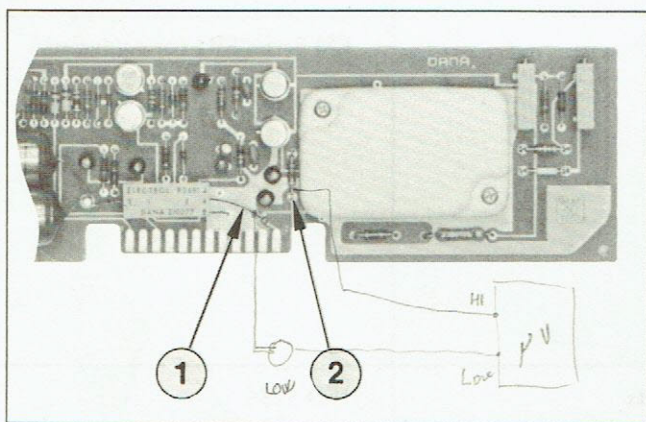

Figure 5.1 - Test Points - Isolator Voltage Zero
- b. Remove Shield. Referring to figure 5.1, connect a jumper from point ① (pin 4 of relay K1) to the front panel - input terminal. Connect one end of another jumper wire to point ② (bottom of resistor R35) and dress both wires towards the front of the instrument. Replace shield (do not replace screws) and allow five minutes for the circuitry to stabilize.